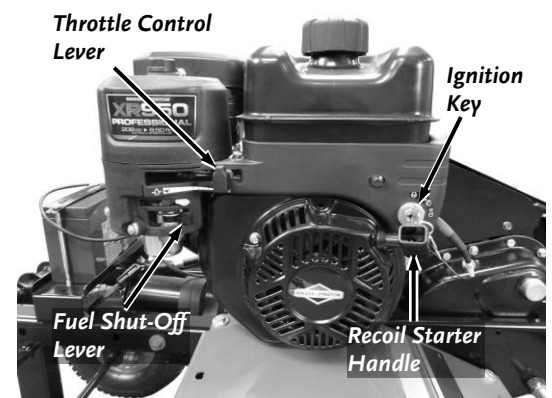

Figure 12
6. Move the Fuel Shut-Off Lever to the right “ON” position (**Figure 12**).
2. When starting a cold Engine, push the Choke Control Lever to the left so it is in the CHOKE  position and then push the Throttle Control Lever to the left so it is in the RUN  position (**Figure 12**).